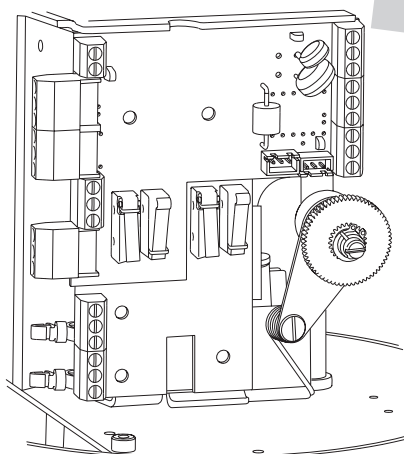

Fig. 20
- Mount the auxiliary switch card (Figure 20).